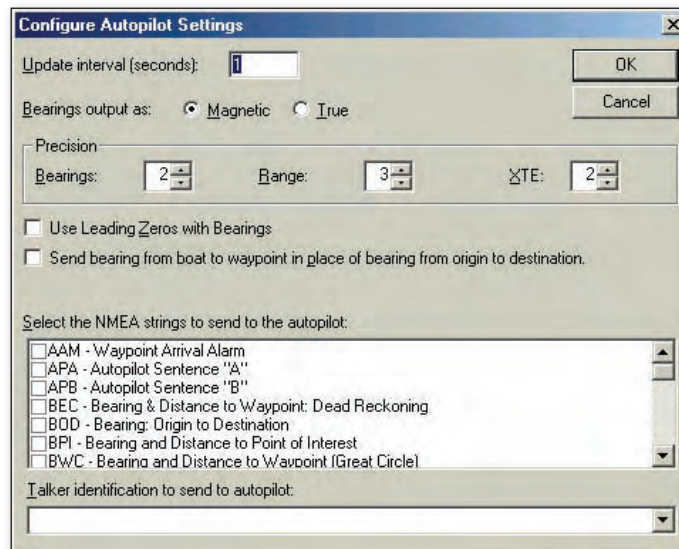

Figure 14.2 - Configure Autopilot Settings Dialog Box
2. Click the **Configure Autopilot** button. This will display the Configure Autopilot Settings shown in **Figure 14.2**.